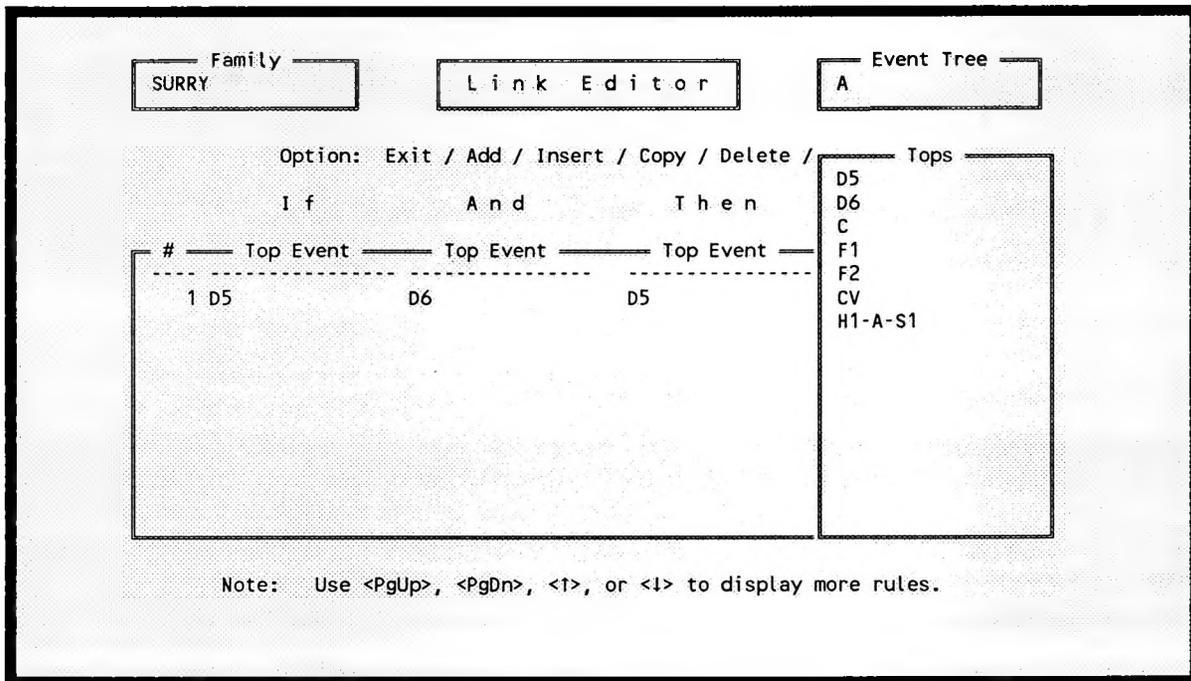
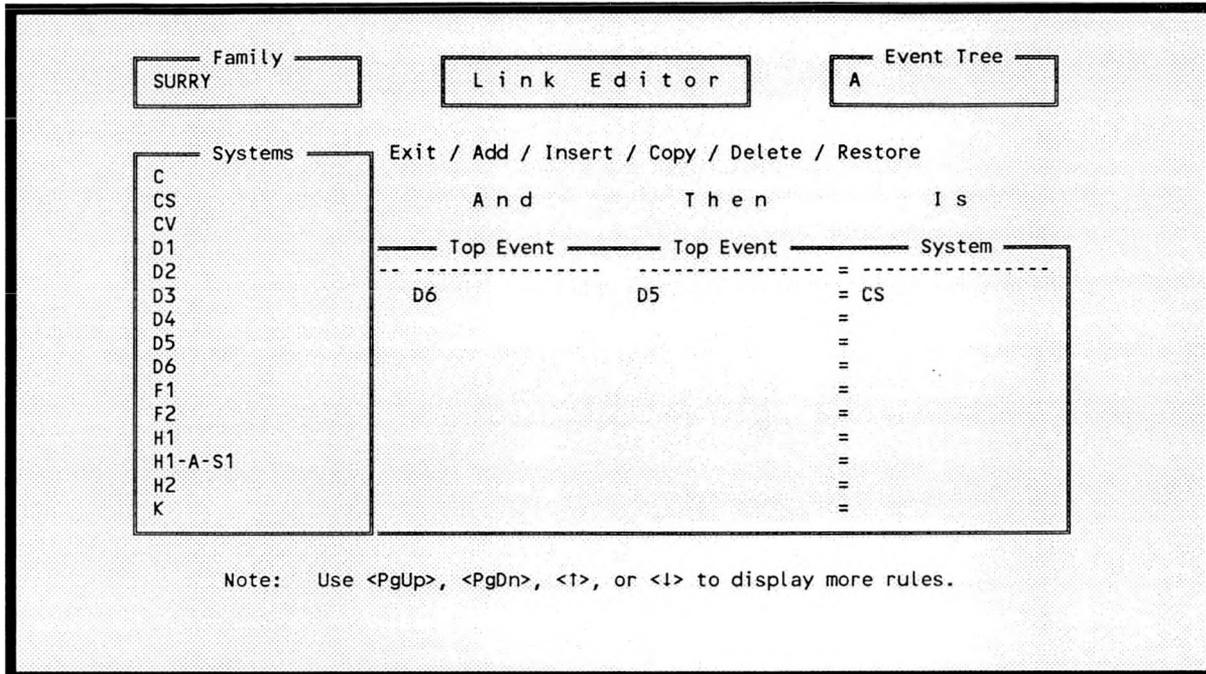

Figure 143. Tops listing help form.
Figure 144. Systems listing help form.
6.3.3.2 Add. This option allows you to add a new rule or modify an existing rule if the cursor is in the first column, or add/modify a top or system if the cursor is in any other column. To add a rule, move the cursor to the first column and type an <A>. A default rule number will appear in the first column. Press <Enter> and the cursor will be moved to the second column. A line of dashes will appear above the rule that is being added. This is to assist in keeping the rules separated. To add a conditional top, type <A>, enter the name of the conditional top, and type <Enter>. If the name you entered is not a top for this event tree, the message **Name not found...** is displayed. A list of all the tops for this event tree is displayed in a help form on the right side of menu. To select one of the tops from the help form, type <F1>, move the cursor to the top to be added, and press <Enter> (see Figure 143). All conditional tops and replaced tops are added in this same way. The replacement top is added in much the same way with some differences. When you type <A>, the list of all systems in the family is displayed in a help form on the left hand side of the form (see Figure 144). Any system in the family can be entered here, and the message **Name not found...** will be displayed if the name entered is not a system. To modify a rule, position the cursor over the top/system to be changed, type <A>, and enter the new top/system name just as you do on an add.